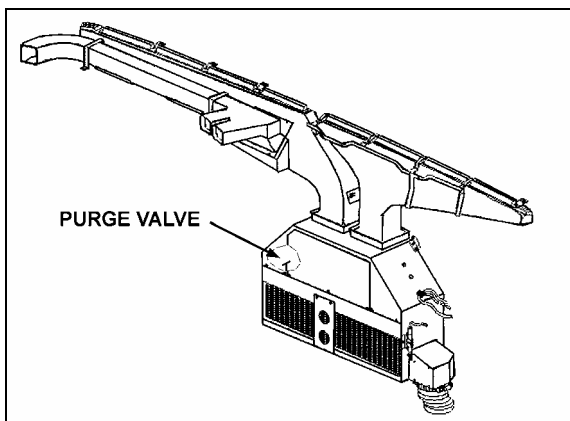
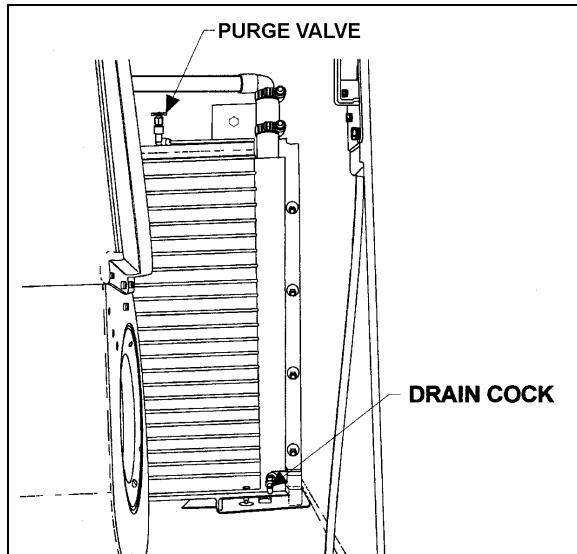

FIGURE 45: DRIVER'S HVAC UNIT
FIGURE 47: INSIDE EVAPORATOR COMPARTMENT 22229
4. From inside of vehicle, remove the grill and the access panels. Open the purge valve located inside the HVAC unit on the driver's side (Figure 45) to ensure an efficient draining.
4. Open drain cock in bottom of heater core, then open purge valve located on top of heater core (Figure 47) in order to allow air to enter while draining.
Whenever the heating system has been drained and refilled, or the system has run low on coolant and coolant has been added, it is necessary to bleed air from heating system. Locate the purge valve illustrated in Figure 45 and Figure 47, and open them momentarily until no air escapes from the lines